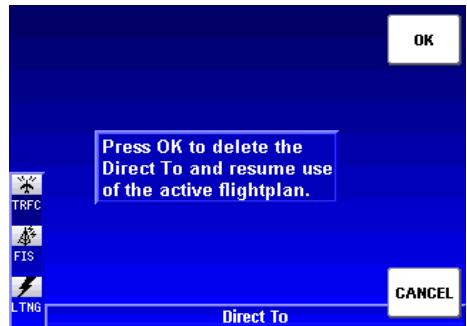

Figure 1-152
2. Press the **DELETE DIRECT** Softkey and Figure 1-152 will be displayed.